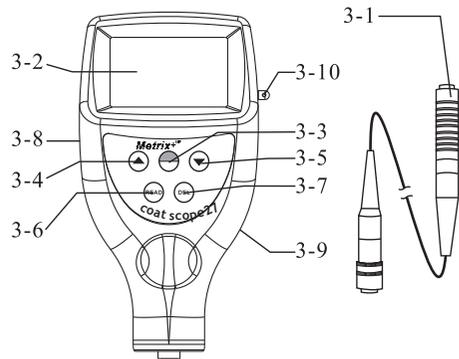

Fig. 1
10.2 Slide the Battery Cover (Fig. 1, 3-9) away from the instrument and remove the batteries.